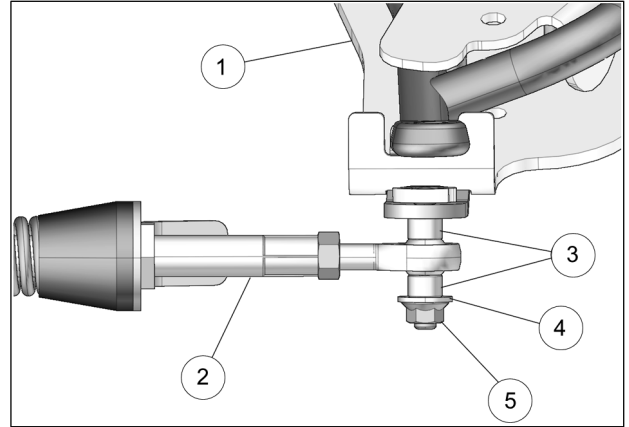

Fig. 23
13. Attach the stabilizing rod (**2**) to the anchor bracket (**1**), using the two spacer bushings (**3**), flat washer (**4**), and nut (**5**). Torque to 70 N•m [52 lb•ft]. Refer to Fig. 23